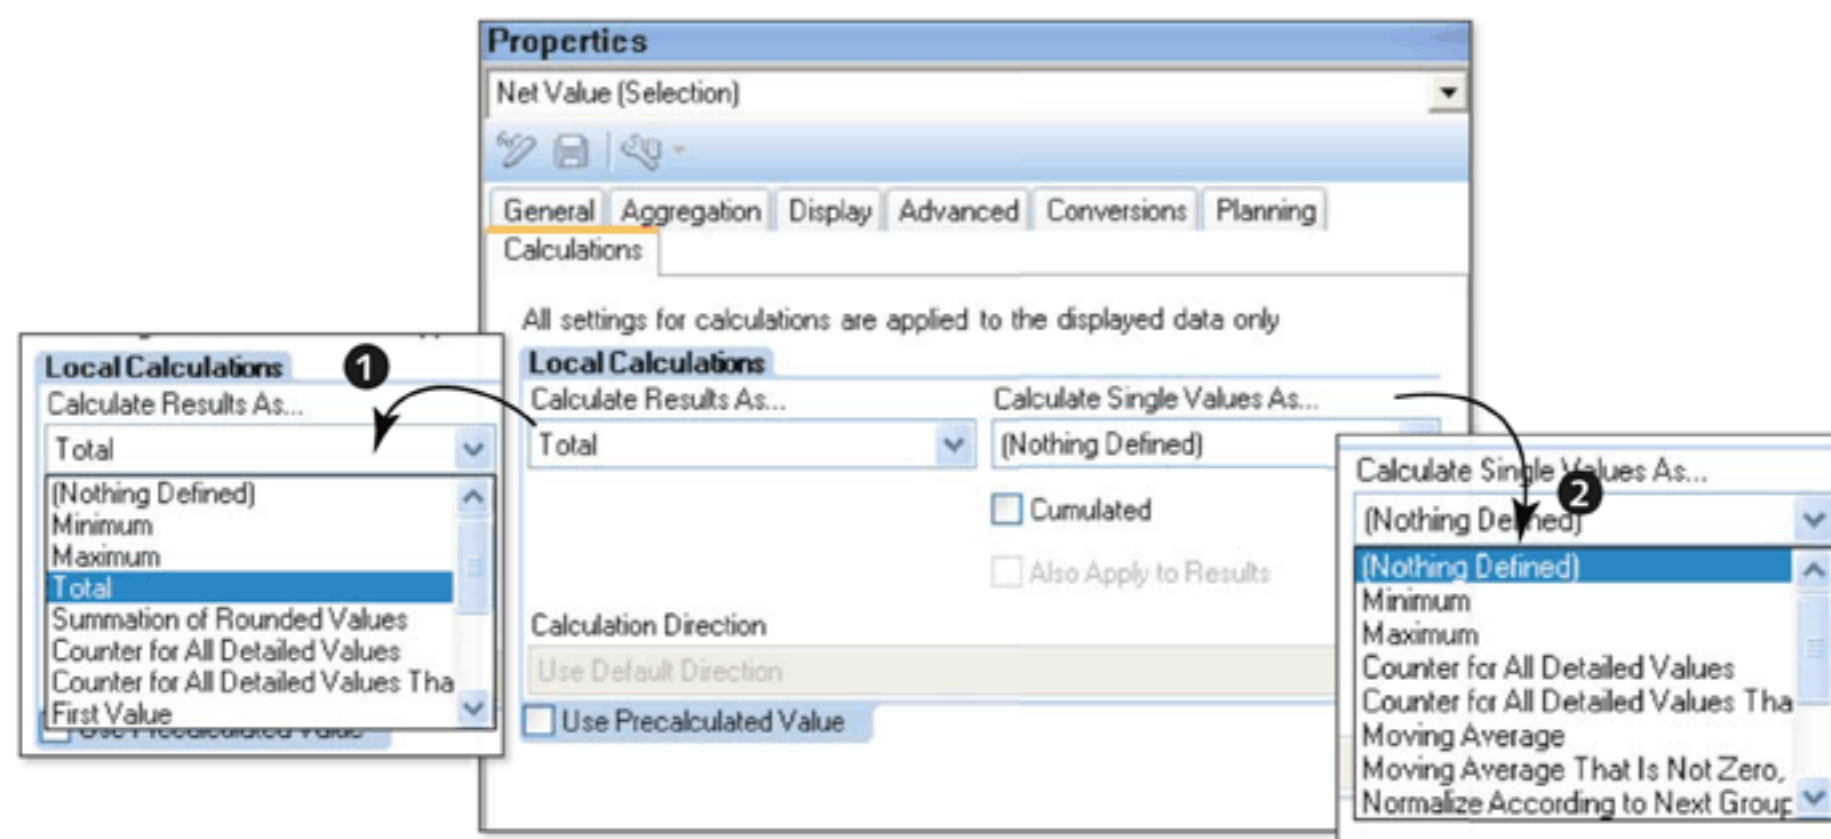

Figure 9.76 Key Figure Properties: Calculations Tab
The CALCULATIONS tab allows you to define the way you want the results and the single values to be calculated for the report output (see Figure 9.76).
The option you choose in the CALCULATE RESULT AS area (❶ of Figure 9.76) will actually recalculate the result per the selected option. Similarly, the option you select under CALCULATE SINGLE VALUE AS (❷) will influence the way single values are recalculated for the query output display.